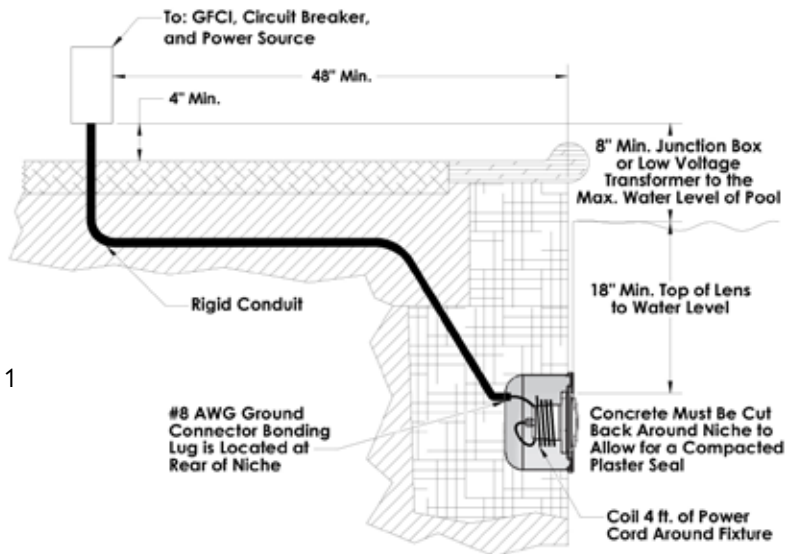

Figure 1
- A junction box or low voltage transformer is located at least 8 inches above the maximum pool water level and at least 48 inches from the pool edge; reference Figure 1.
- Proper wet niche installation with the top edge of the underwater light's lens at least 18 inches below the surface of the water in the pool and not more than 20" in Canada; reference Figure 1.
- Proper electrical wet niche bonding and grounding using the #8 AWG ground connector at the rear or the niche; reference Figure 1.
- The wet niche is properly electrically bonded and grounded via the No. 8 AWG ground connector located at the rear of the niche; see Figure 1.